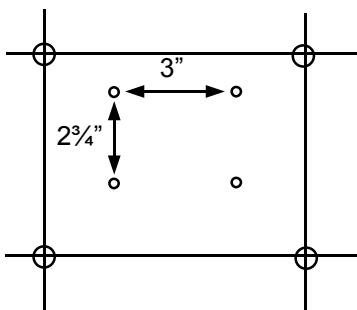

Figure 1
- a) To mount kit as supplied: Remove enclosure backing by removing the screw on either side of the case and drill four holes on the enclosure's 2-3/4" x 3" centers as pictured in Figure 1. (Side mounting holes may also be used depending on mounting location). Also, remove appropriate wiring knockout. After making appropriate wiring connections described below, re-attach enclosure.